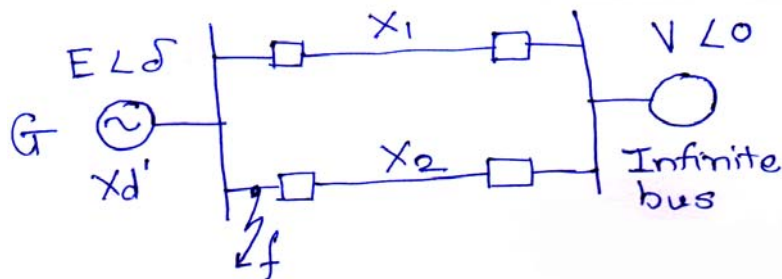

fig 1(b)
- b) For the system shown in fig 1(b), if fault takes place close to generator on line 2, when power transfer is 1.5 pu in the system and  $E = 1.2, V = 1, X'd = 0.2, X_1 = X_2 = 0.4\text{pu}$  [8]